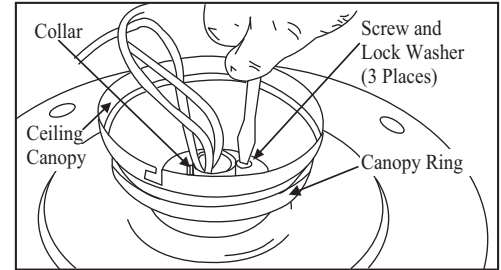

Figure 10
5. Place the rubber gasket over the remaining three screws, route the wires exiting the top of the fan motor through the canopy ring (make sure the slot openings are on top), then proceed to place the ceiling canopy over the collar at the top of the motor. (Figure 10)
6. Align the mounting holes with the holes in the motor and fasten using the screws and lock washers removed in step 4 (Fig. 10).